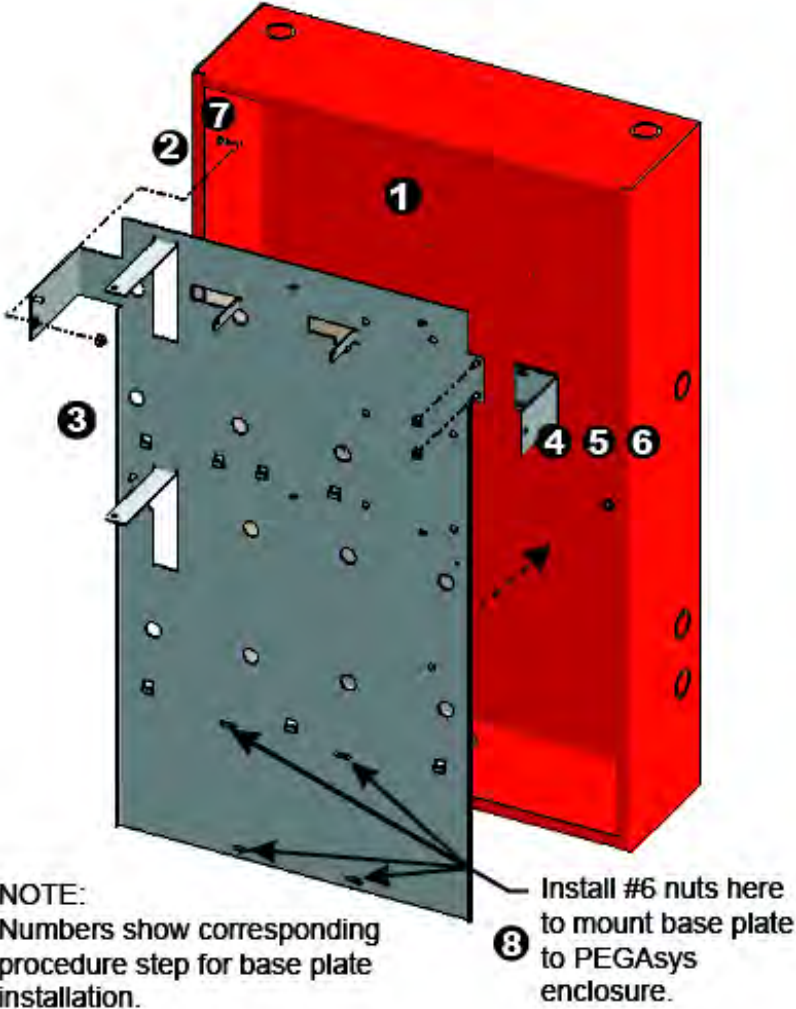

Figure H-1. Installing the Base Plate
**Note:** A suggested method, which is safe and easy to perform, is to use a grinding tool such as manufactured by Dremel (with a grinding wheel attached) to first grind off all pop rivets in the cabinet (except for the four at the bottom as shown in Figure H-1). With the pop rivets grinded off, carefully pry the empty brackets off the enclosure with a screwdriver and discard or store.
3. Insert the base plate as shown in Figure H-1.
4. Manually hold the small bracket to the base plate at the right (shown in Figure H-1). Mark the hole location in pencil.
8. Fasten four (4) #6 nuts over the screws at the bottom of the enclosure (shown in Figure H-1).